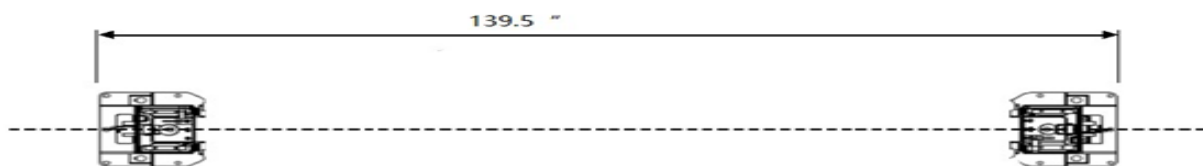
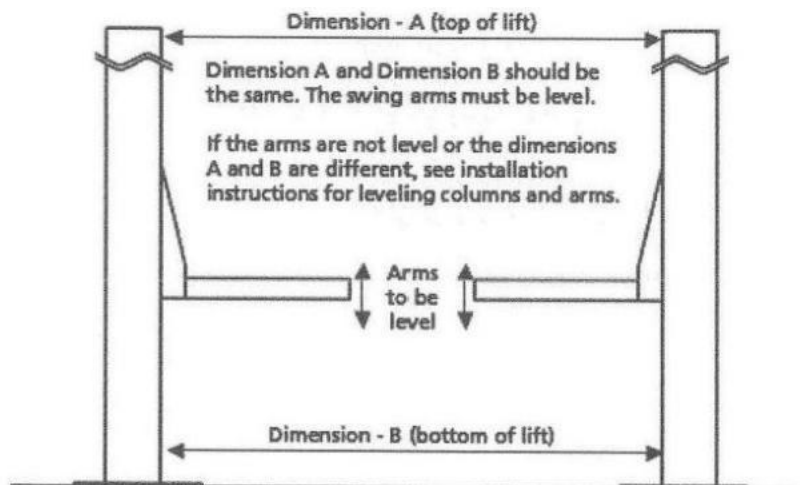

Figure 3 Column Spacing
Figure 4 Column Squaring and Arm Leveling
4. Measure the distance between the closest corners of the columns as shown in Figure 3. The distance between the top and bottom of the columns at this point must be the same. Adjust the loose column until the distance between the two columns is the same top and bottom (Parallel), as shown in Figure 4. Check that the locator marks of the loose column are still aligned with the chalk line.